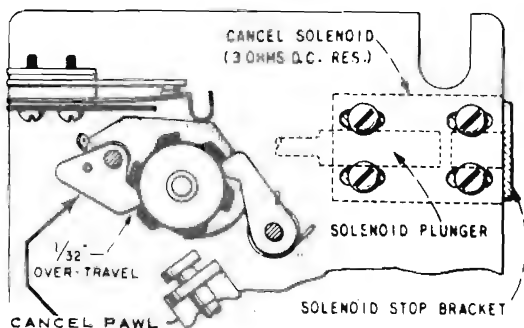

Figure 4.
2. Adjust the position of the Cancel Solenoid Stop Bracket so the Cancel Pawl overtravels the ratchet teeth approximately $1/32''$ when the solenoid plunger bottoms against the Stop. Set the Stop mounting screws firmly after adjustment. See figure 4.